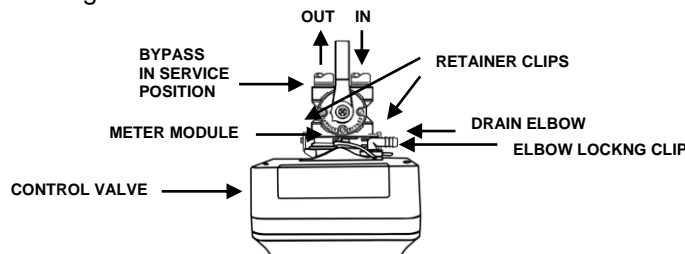

FIGURE 1: Top View of Control Valve
STEP 3: Use clips and screws provided and attach bypass valve to the inlet/outlet of the control valve. See figure 1 below.